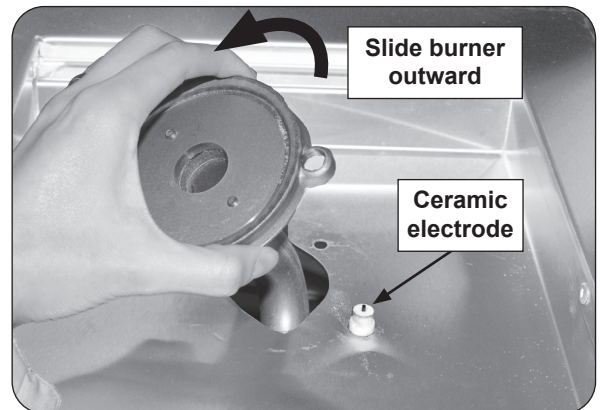

Fig. 37-2 Remove burner
5. Carefully lift the burner up and out, clearing the ceramic electrode (see Fig. 37-2), and pulling the burner tube away from the orifice located on the left side of the unit.